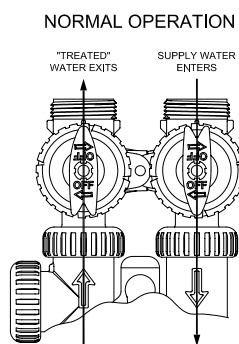

figure 1
1. Normal Operation Position: The inlet and outlet handles point in the direction of flow indicated by the engraved arrows on the control valve. Water flows through the control valve during normal operation and this position also allows the control valve to isolate the media bed during the regeneration cycle. (see figure 1)